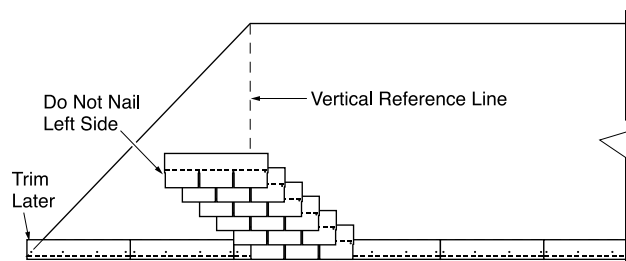

Figure 9-3: Section 1-A
2. Apply the first shingle of each course above the first course by overlapping the reference line by the required amount as directed by the application instructions for the product. Do not nail the left end of these shingles at this time. (There will be a total of four or six courses per diagonal section depending on the product being installed.) (See Figure 9-3).